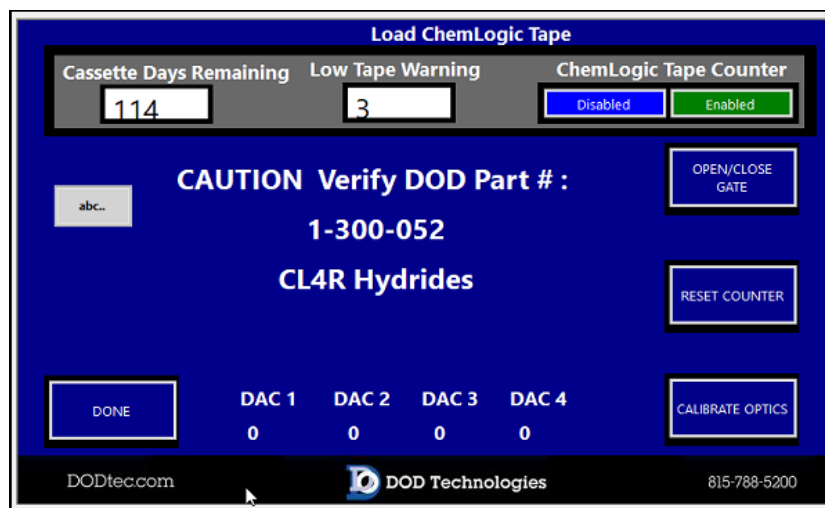

Figure 4
- 10) When you see the Calibrate Optics button (Figure 4), make sure the gate is closed and select that button.